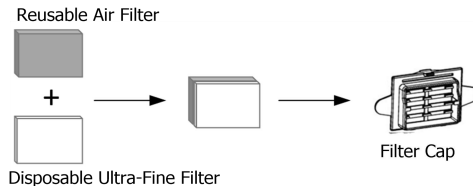

Fig. 18-5
(2) If using the optional disposable ultra-fine filter this can be replaced by removing the filter cap and remove the disposable ultra-fine filter. To install a new disposable ultra-fine filter, place the reusable air filter into the filter cap first and then apply the disposable ultra-fine filter. The disposable ultra-fine filter will be closest to the device, as shown in Fig. 18-5.